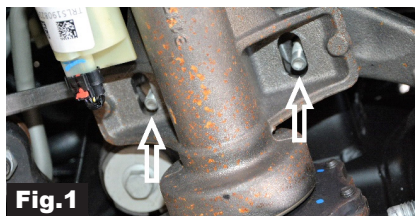
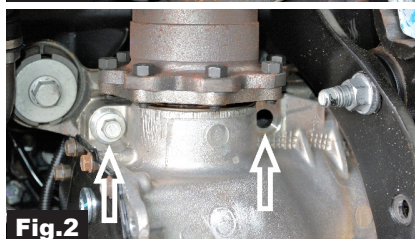

Fig.1
Fig.2
- A** (1) Heavy-Duty Cast Aluminum Engine Oil Pan
- B** (26) M6-1.0 x 25mm Socket Head Cap Screws
- C** (26) M6 Washer
- D** (1) M14 x 1.5 Neodymium-equipped Drain Plug (Installed)
- E** (1) 1/8" NPT Plug (Installed)
Step 3. Remove the inner axel shaft housing to diff carrier nuts and diff carrier mounting bolts as shown in **Fig.1** & **Fig.2** Lower and secure front differential for easier stock pan removal and installation of larger PPE pan.